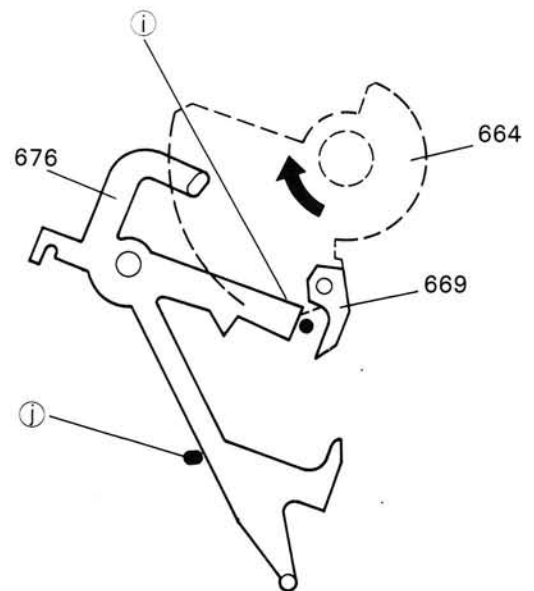

Fig. 3-2
With a 30-cm record, since the auto-in cam (676) stays by the boss (i), the hook (669) of the tonearm feed cam (664) pushes to move the boss (a) to stop at point (i), which point refers to the 30-cm record auto-in position. (Fig. 3-2)